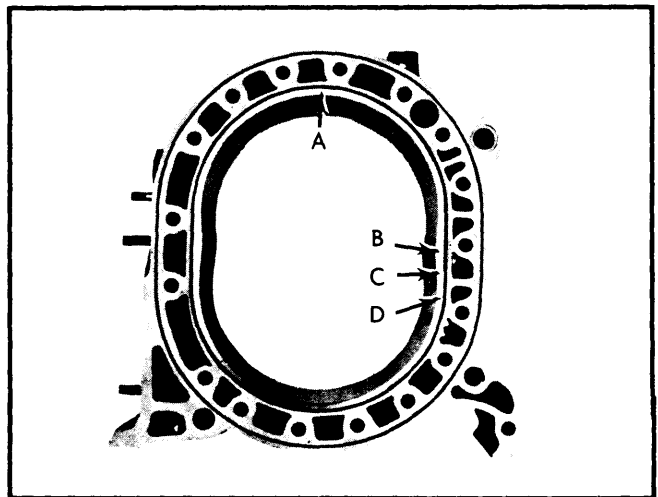

Fig. 11 Rotor Housing Thickness Check Points
4) Check rotor housing thickness at points A, B, C, and D in Fig. 11. If micrometer readings vary between point A and minimum value for B, C, and D by more than .0024" (.06 mm), replace rotor housing.
4) Measure width of rotor at three points around edge. Subtract maximum rotor width from width of rotor housing at point A, (Fig. 11). Difference should be within .0039-.0083" (.10-.21 mm). If clearance is excessive, replace rotor assembly. If less than specified, internal gear has probably come out. Strike internal gear lightly with plastic hammer and remeasure clearance.
3) When installing new apex seal, check gap between seal and side housing. Measure length of seal with micrometer and subtract length from rotor housing width at point A, (Fig. 11). Clearance should be .0051-.0067" (.13-.17 mm). If seal length is excessive, correct with emery paper.